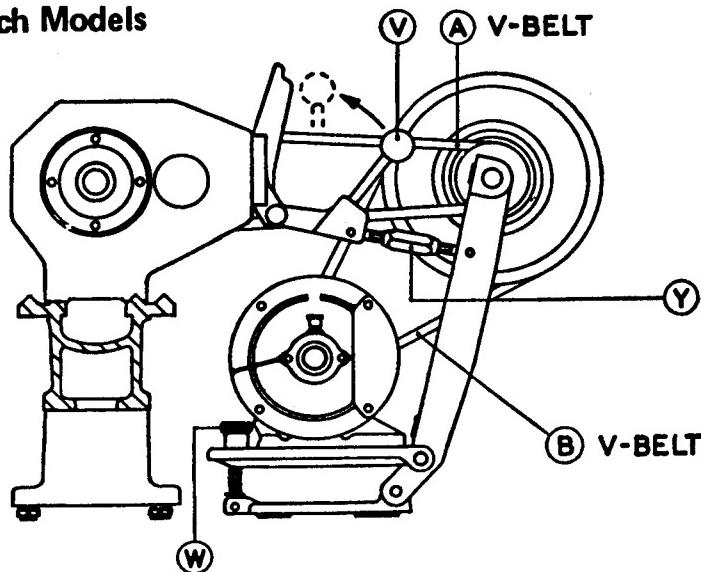

Fig. 18. Diagram of Bench Model Countershaft
The bench model drive unit as shown in Fig. 18, consists of a countershaft which pivots on a base fastened to the bench or cabinet top behind the headstock, and a motor platform which pivots on the countershaft. An adjustable belt tension lever is fixed between the countershaft and the headstock and when this lever is pulled towards the front of the machine, tension in both drive belts is released, enabling either belt to be changed from one position
12. COUNTERSHAFT BEARINGS (Bench machines). Oil daily. See Fig. 18.
17. MOTOR BEARINGS. See (13) above.